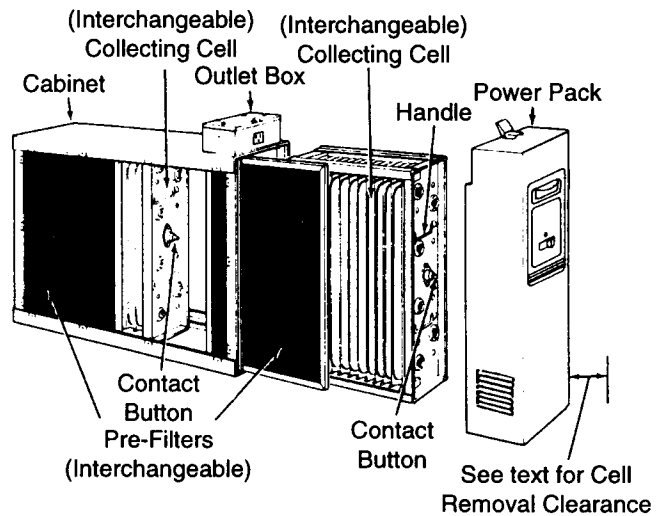

Figure 4
2. Allow a clearance of 14 inches to permit removal of cells and pre-filters: (See Figures 4 and 5).
Your air cleaner is shipped from the factory with air flow from left-to-right. If this air flow is suitable for the installation, no further changes need to be made (Figure 4). For right-to-left air flow, remove both pre-filter and cell sections. Turn cells upside down (with the same end facing the cabinet opening). This will locate the ionizing wires at the right, and both contact buttons and cell handles will be
1. Place the air filter cleaner on the floor. Stand it upright with the power door facing you (Figure 4). If a horizontal installation is being planned, lay the cleaner on its side, this will help you to visualize the relative location of all parts.